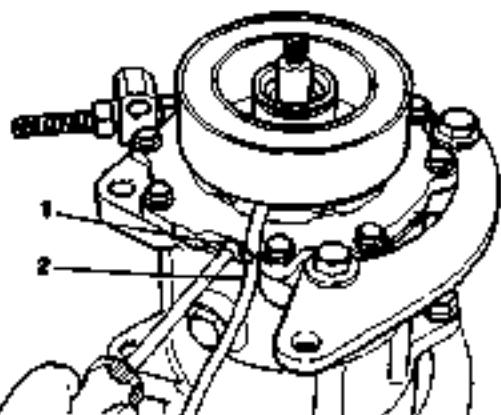

Figure 1.
6. Slacken the field coil wire clampscrew (Fig. 1) and release the wire from the clamp.